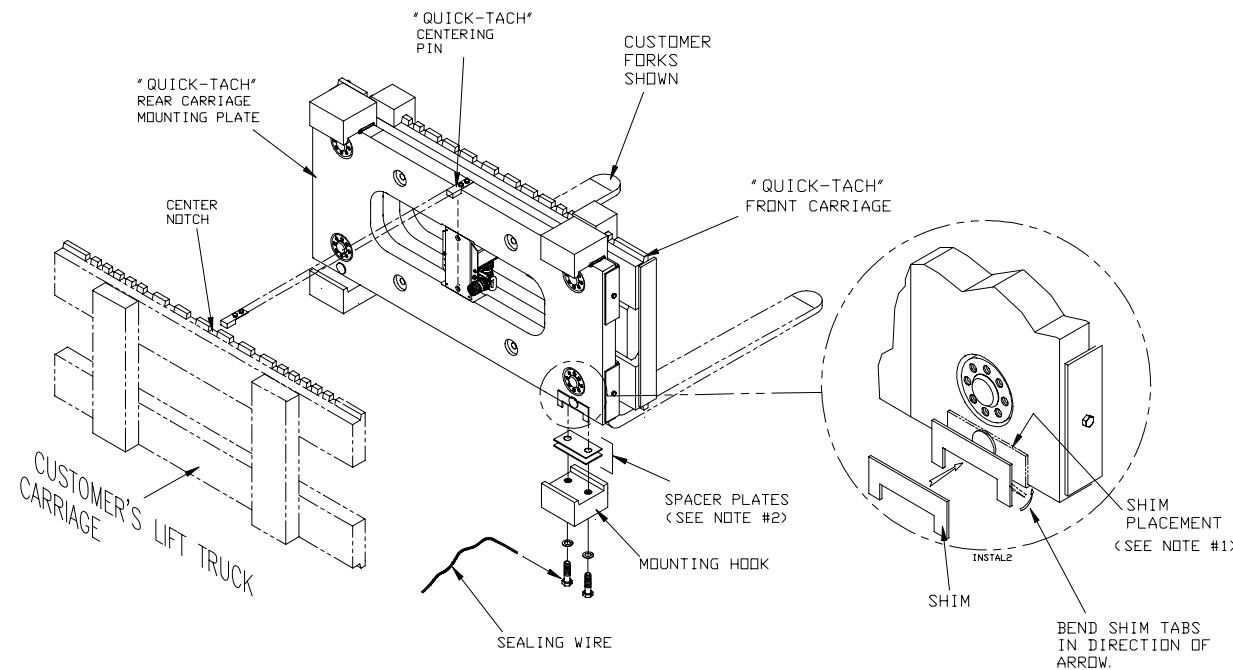
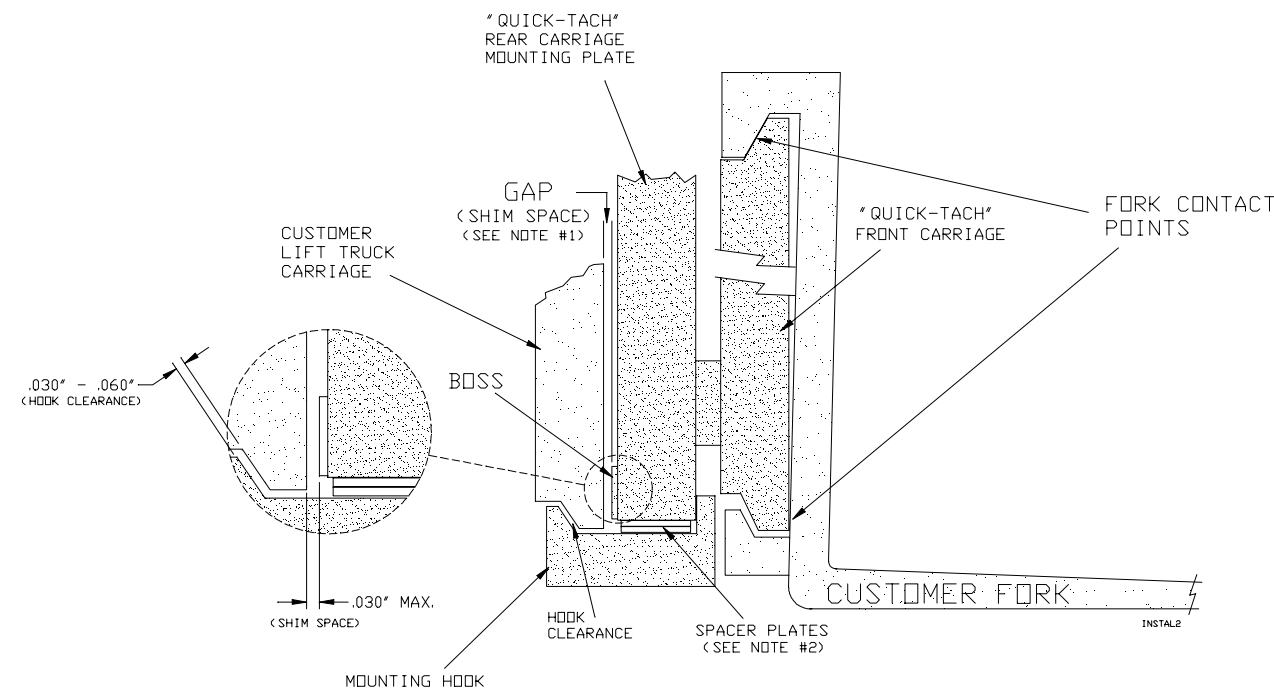

FIG. 1
FIG. 2
- Remove the two mounting hooks and washers bolted to the bottom of the Quik-Tach carriage (see **Figure 1**). The hooks secure the scale to the lift truck and will be reattached after the scale is properly positioned.
NOTE #1: (See **Figure 2**) Make sure the bosses on the Quik-Tach carriage make contact with the customer's lift truck when both forks are seated. If there is more than .030" gap between the Quik-Tach and the customer's lift truck carriage (see **Figure 2**) when the forks are seated, use the included shims as needed to close the gap on either end, then bend over the tabs to hold them in place as shown in **Figure 1**. There are three shim thicknesses (.035", .048", .059"). If you have to stack more than two shims on either end, your carriage is bent and needs to be fixed or replaced.
NOTE #2: There must be 0.030" to 0.060" space between the customer's lift truck carriage and the mounting hooks of the Quik-Tach scale. See Hook Clearance in **Figure 2**. These parts must not touch or the scale won't weigh correctly. Use the spacer plates as needed to be sure this space exists. Also be sure that the customer's lift truck forks contact the scale only at the positions shown in **Figure 2**. Repair or replace the forks if they are bent or have protrusions which contact the face of the scale.